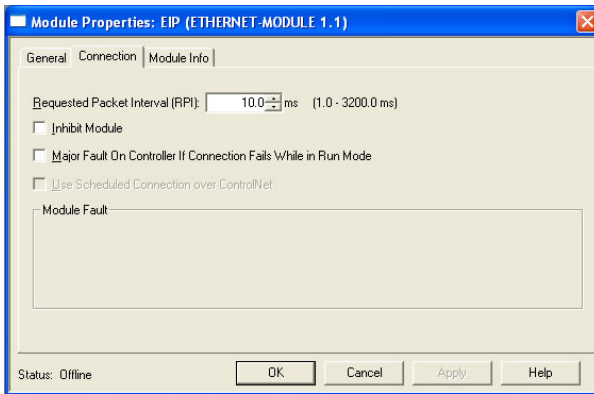

Figure 88: Interface Card Module Properties Connection Tab
- 5) You should now see the new module (named “ETHERNET-MODULE Fuji_Inverter”) in the 1756-ENBT/A branch under the I/O Configuration in the controller organizer view. Right click on this new module, choose “Properties”, and select the Connection tab. Refer to Figure 88.